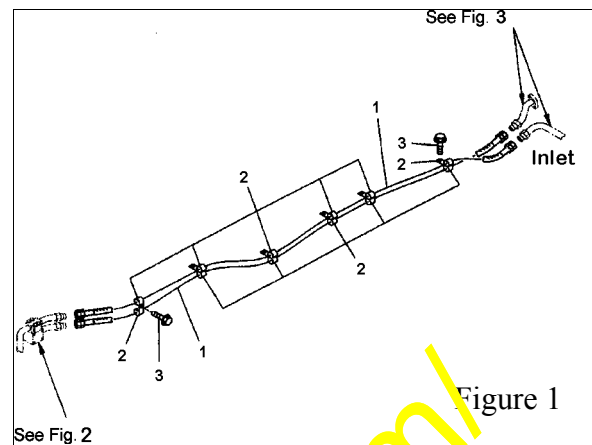
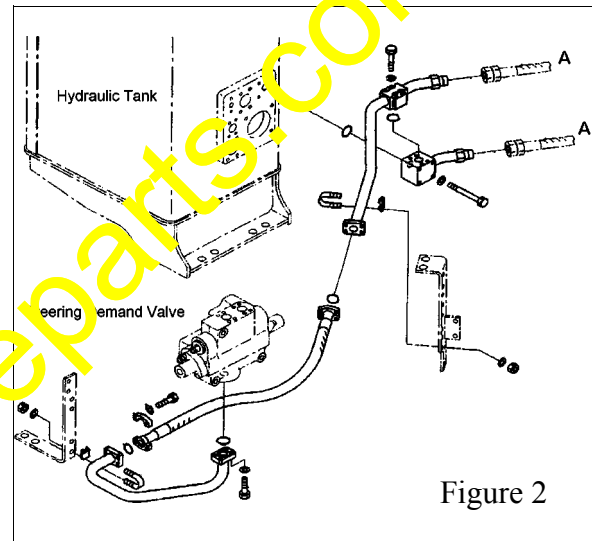
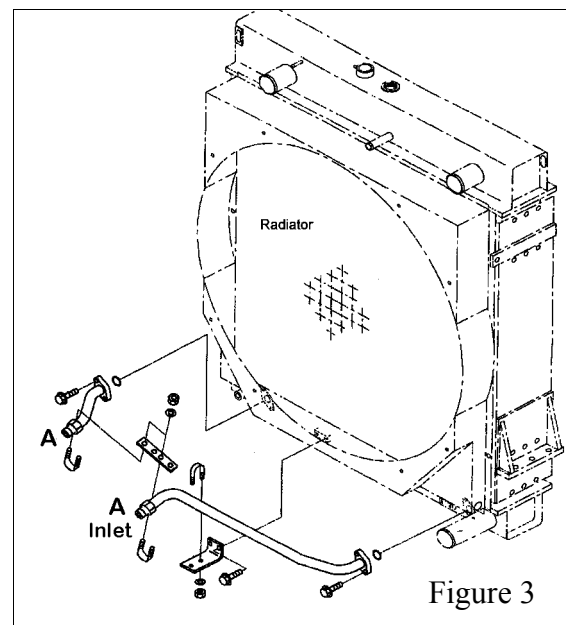

Figure 1
Figure 2
Figure 3
Refer to Figure 1 for items listed below.
1. Locate the two (2) hydraulic oil cooler hoses (Figure 1), which run from the hydraulic tank (Figure 2, A) to the hydraulic oil cooler at the bottom of the radiator (Figure 3, A).
2. Remove the six (6) bolts and the twelve (12) clips which secure the two (2) hoses along their path. Refer to Figure 1.
4. Disconnect the two (2) hoses from the hydraulic tank (Figure 2, A).
5. Disconnect the two (2) hoses from the hydraulic oil cooler at the bottom of the radiator (Figure 3, A).
6. Connect the two (2) new hoses to the hydraulic oil cooler at the bottom of the radiator.
11. Secure the new hoses to the machine with the twelve (12) clamps and six (6) bolts removed earlier.